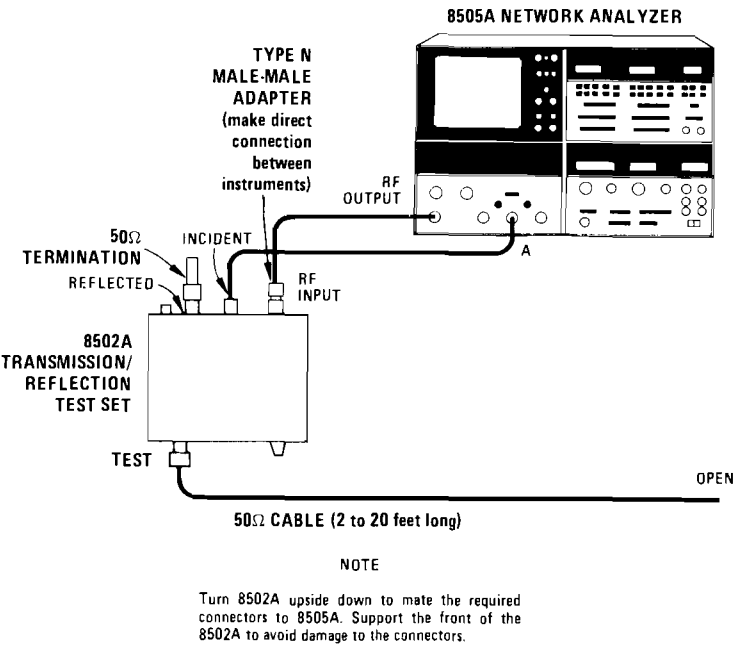

Figure A4-20. Test Setups for Equivalent Source Match
- b. Connect equipment as shown in Figure A4-20. Set 8502A RF INPUT ATTENUATION to 0 dB.